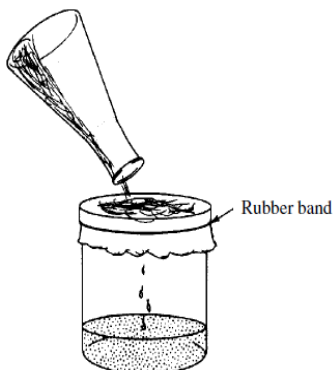

Figure 10.2: Filtration of Casein
- Filter the mixture into a 100-mL beaker by pouring it through a cheese cloth which is fastened with a rubber band over the mouth of the beaker (Fig. 10.2).
6. The samples in which a precipitate appeared must be filtered. Place a piece of cheese cloth on top of a 100-mL beaker. Pour the turbid hydrolysate in the test tube on the cheese cloth and filter it. Figure 10.2